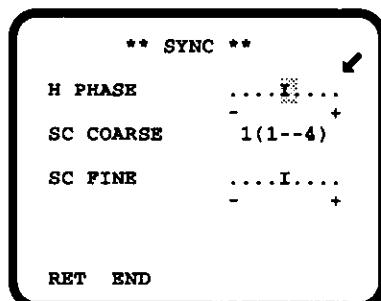

Fig.33.
- B/W Composite Video Signal (VS)
- When the VBS or VS gen-lock mode is to be used, supply the gen-lock input signal to Gen-lock Input Connector on the rear panel (20).
- The VBS gen-lock mode has a second level menu of the horizontal phase (H PHASE) and subcarrier phase (SC COARSE, SC FINE) adjustments as shown in Fig.33.